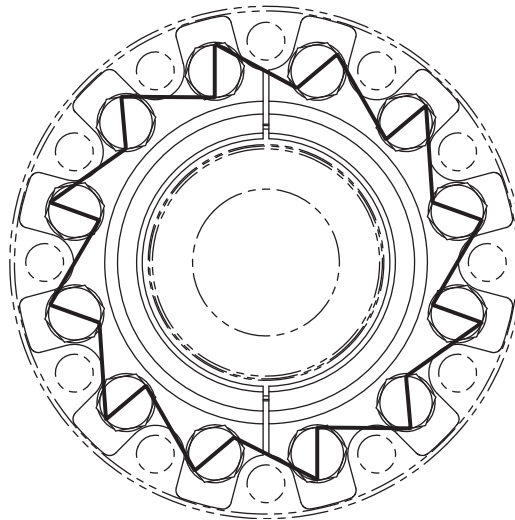

Figure 5: Secondary Wiring Retention
4. Apply secondary retention to capscrews per Canrig ENG 701. See Figure 5.